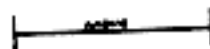

Figure 3-3. Linear Target.
(2) Linear Target. A linear target is one that is more than 200 meters but less than 600 meters long (e.g., a trench line). Targets longer than 600 meters will require additional fire support assets or be made into multiple targets. A linear target is designated in the target list (Figure 3-3) by two grids or a center grid, length, and attitude.